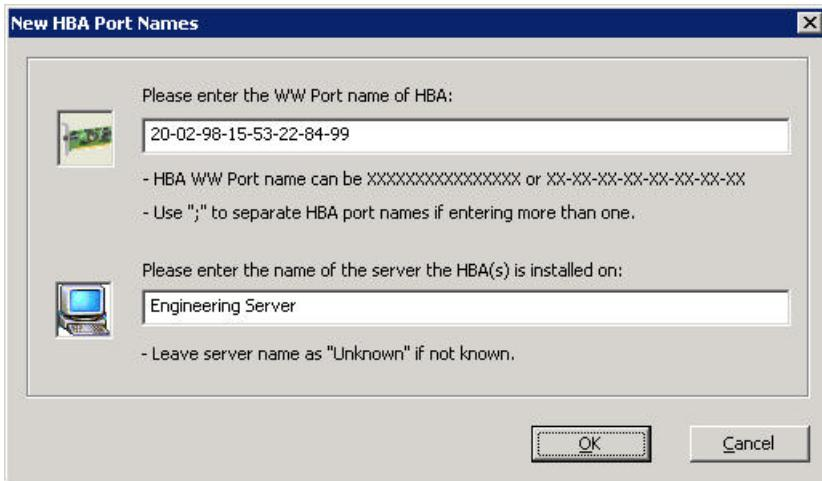

Figure 62 New HBA Port Names dialog box
- On the New Logical Disk Server Presentation dialog box, click **Manual Add**. The New HBA Port Names dialog box (Figure 62) opens.
- On the Logical Disk Server Presentation dialog box, click **Manual Add**. The New HBA Port Names dialog box opens; see Figure 54 (for EVA storage) or Figure 62 (for MSA storage).